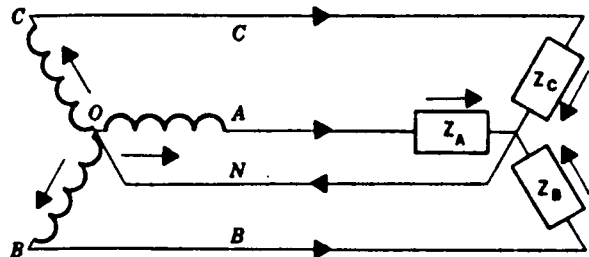

Figure 4-6 — 4-Wire Wye Load (120 Volts Applied)
- 1) To apply 120 volts to a load, connect it as a 4-wire Wye load as shown in Figure 4-6.